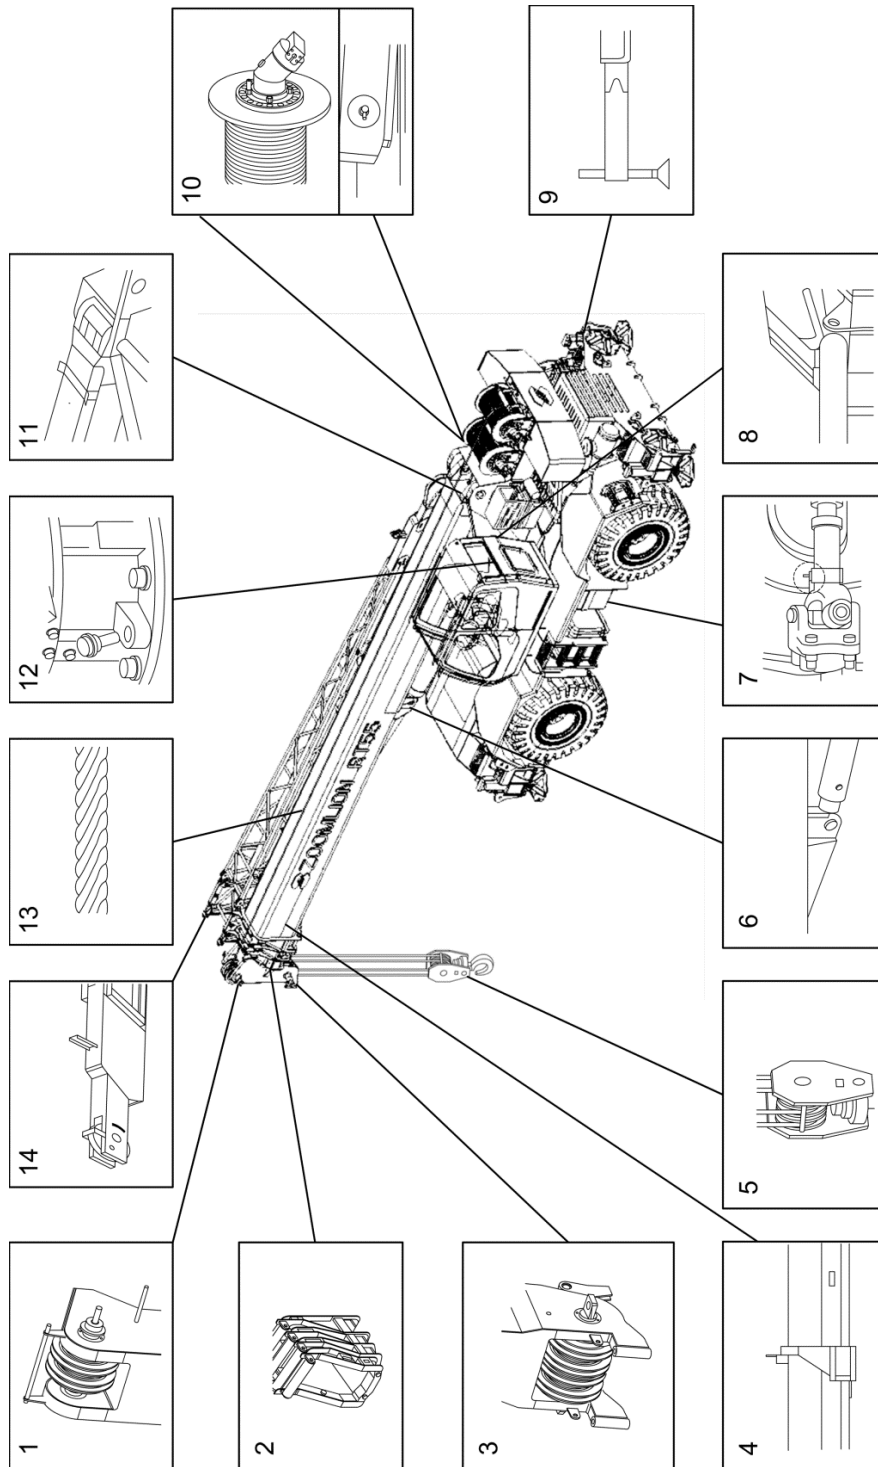

Figure 1-22 Crane Lubrication Points
A. You can use Table 1-6 and Figure 1-22.